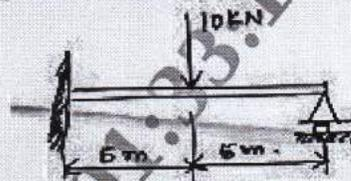

Fig. Q9 (b)
- b. For the beam element shown in Fig. Q9 (b), determine the deflection under the given load. Take  $E = 2 \times 10^9 \text{ kN/m}^2$  and  $I = 4 \times 10^{-6} \text{ m}^4$ . (08 Marks)